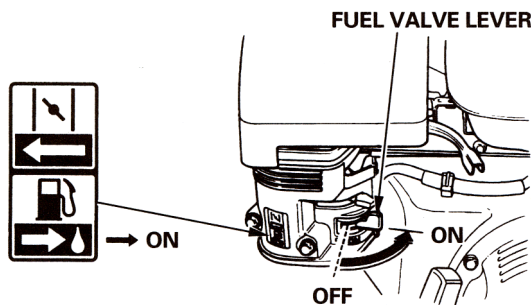

Fig. 9: Fuel Valve Lever
- a. Move the fuel valve lever to the ON position (Fig. 9).
- e. Move the fuel valve lever (Fig. 9) to the OFF position.